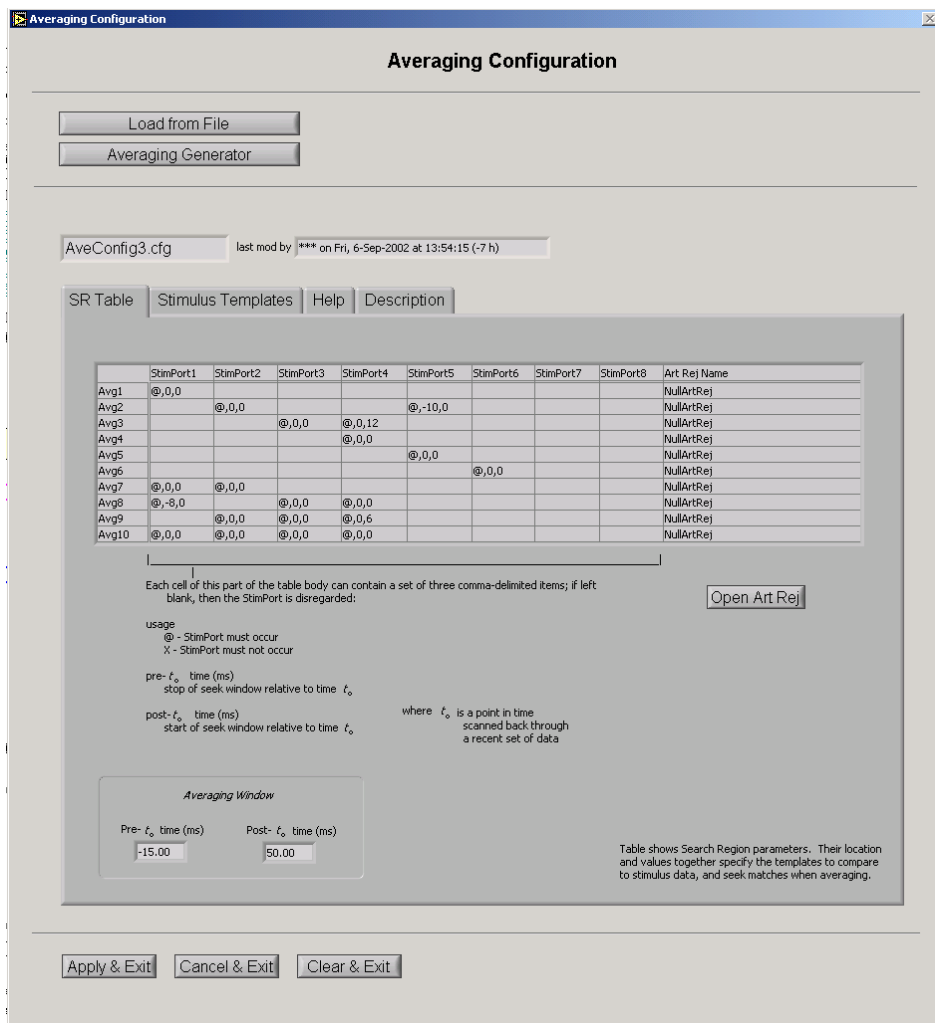

Figure 38: Averaging Configuration (SR Table)
The Averaging Configuration panel, selected from the System Controller panel, allows the user to set up different templates of stimulus events, which are to be compared to real-time stimulus data during an experiment. Upon a template match, all SQUID channel data in the temporal vicinity of the match is added to the template's averaging bin, which can be viewed in the Averaging Display (see below). Up to 10 stimulus templates, with associated averaging bins, may be defined. These 10 stimulus templates can be displayed as a Search Region (SR) table, as shown in **Figure 38**.